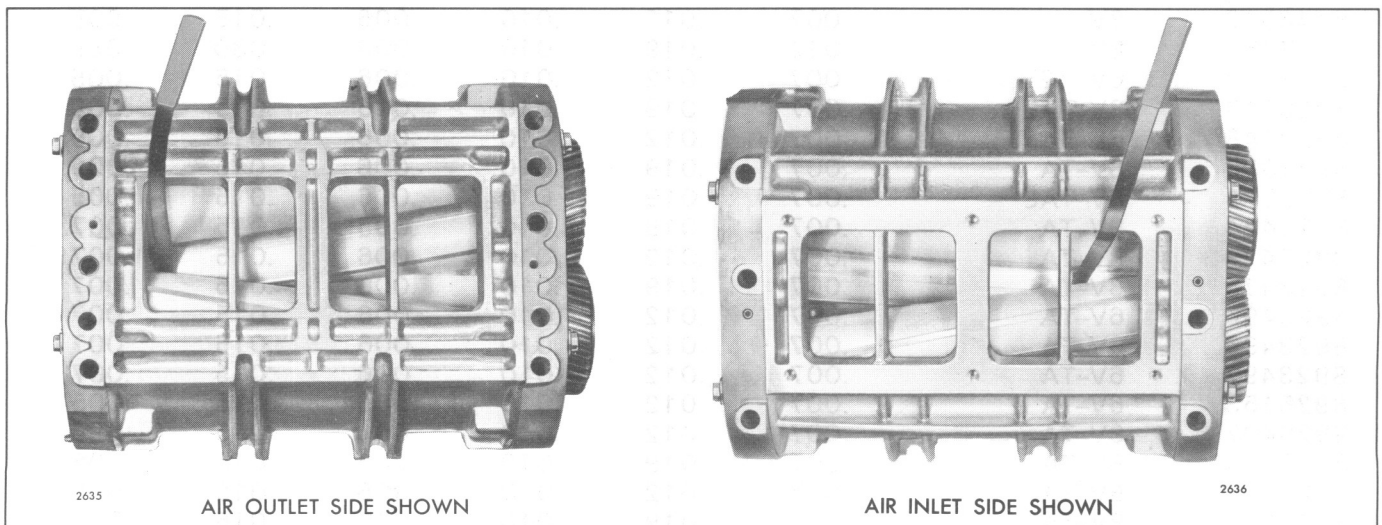

Fig. 22 – Measuring “CC” and “C” Clearance Between Blower Rotor Lobes
- The clearance between the rotor lobes may be checked with 1/2" wide feeler gages in the manner shown in Fig. 22. When measuring clearances of more than .005", laminated feeler gages that are made up of .002", .003" or .005" feeler stock are more practical and suitable than a single feeler gage. A specially designed feeler gage set J 1698-02 for the blower clearance operation is available. Clearances should be measured from both the inlet and outlet sides of the blower.
- Refer to Figs. 22 and 23 and time the rotors to the specified clearance between the *trailing* edge of the right-hand helix rotor and the *leading* edge of the left-hand helix rotor ("CC" clearance) measured from both the inlet and outlet sides. Then, check the clearance between the *leading* edge of the right-hand helix rotor and the *trailing* edge of the left-hand helix rotor ("C" clearance) for the minimum clearance. Rotor-to-rotor measurements should be taken 1" from each end and at the center of the blower.